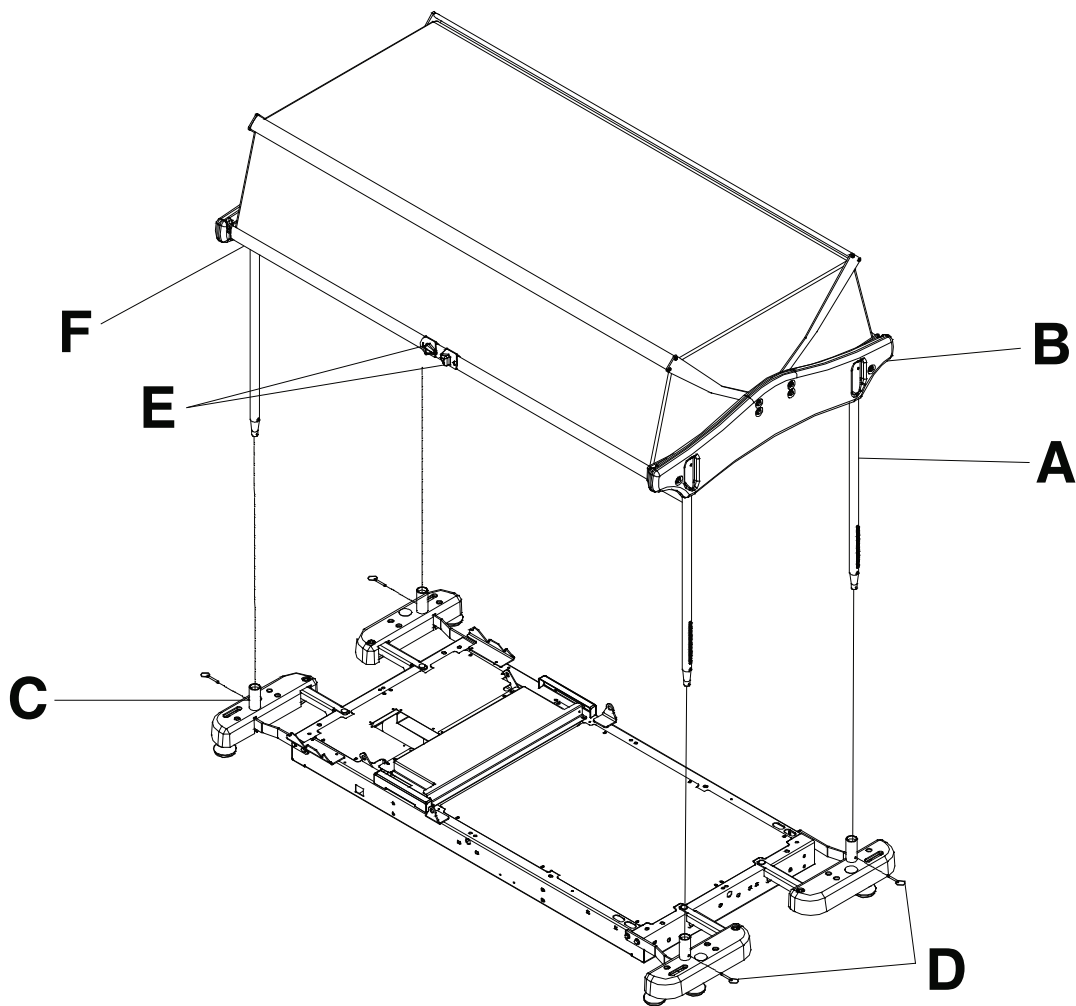

Figure 17 – Retracting protective top
1. Press the lock pin located on the top section of each post (A). Insert the post into the slot of the plastic structure (B) (Figure 17). Repeat for the other posts.
2. Install the four posts in the accessory bracket sockets (C) (Figure 17).
3. Using a 9/16" combination wrench, lock the posts in the accessory bracket sockets with the four hitch pins (D) (Figure 17).
1. To open the protective top, squeeze the two release knobs (E) and lift the lower rail (F) to the desired position (Figure 17).
2. To close the protective top, grasp the lower rail (F) and lower it until it locks into position (Figure 17).